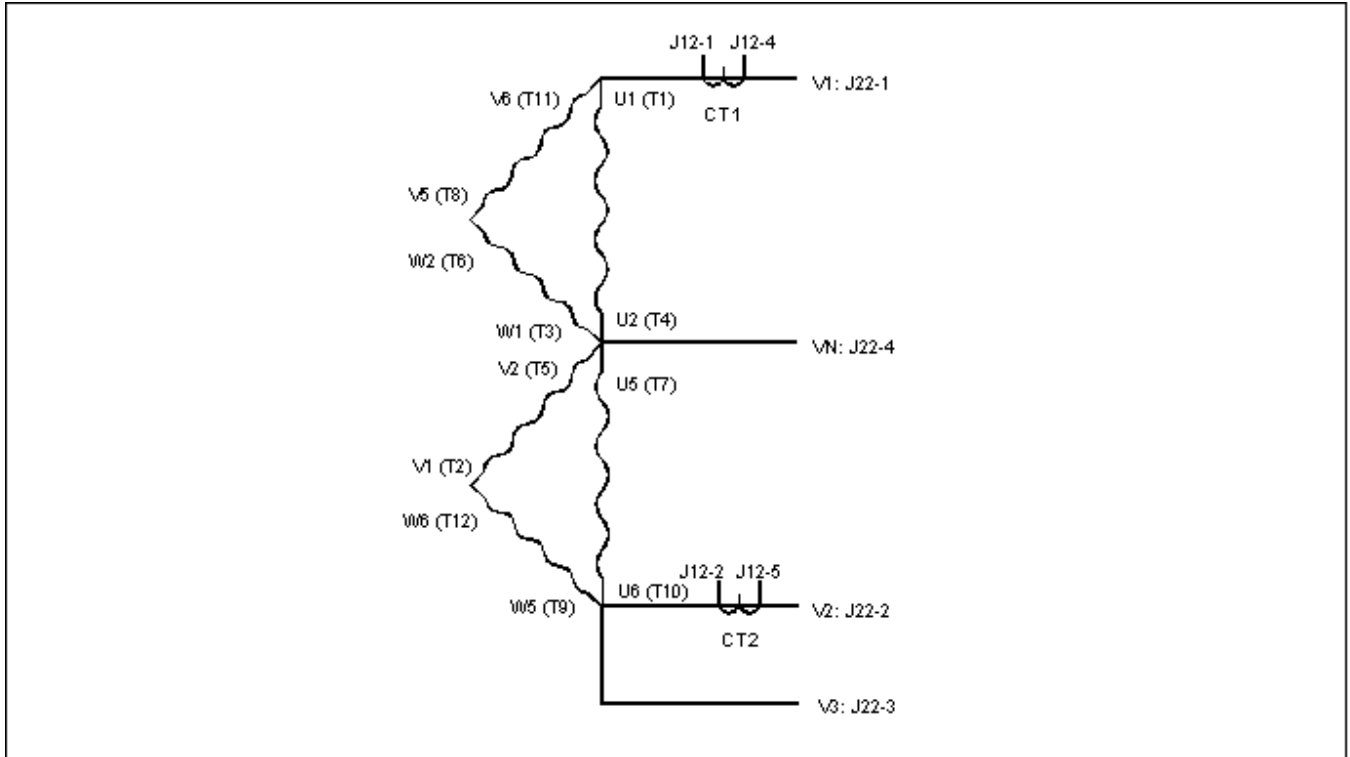

FIGURE 77. ALTERNATOR CONNECTIONS: DOUBLE DELTA
- Figure 77. Alternator Connections: Double Delta 453